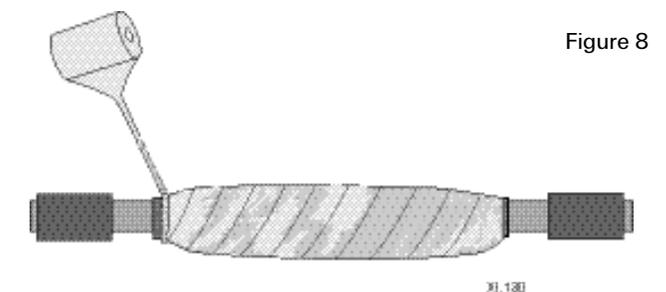

Figure 8
14. Starting at one sealant collar, loosely wrap the encapsulated bundle with one half-lapped layer of 3-mil splice wrap. At the opposite sealant collar, twist 6" of the splice wrap to form a cord, and tightly wrap the cord around the sealant collar. (Figure 8)